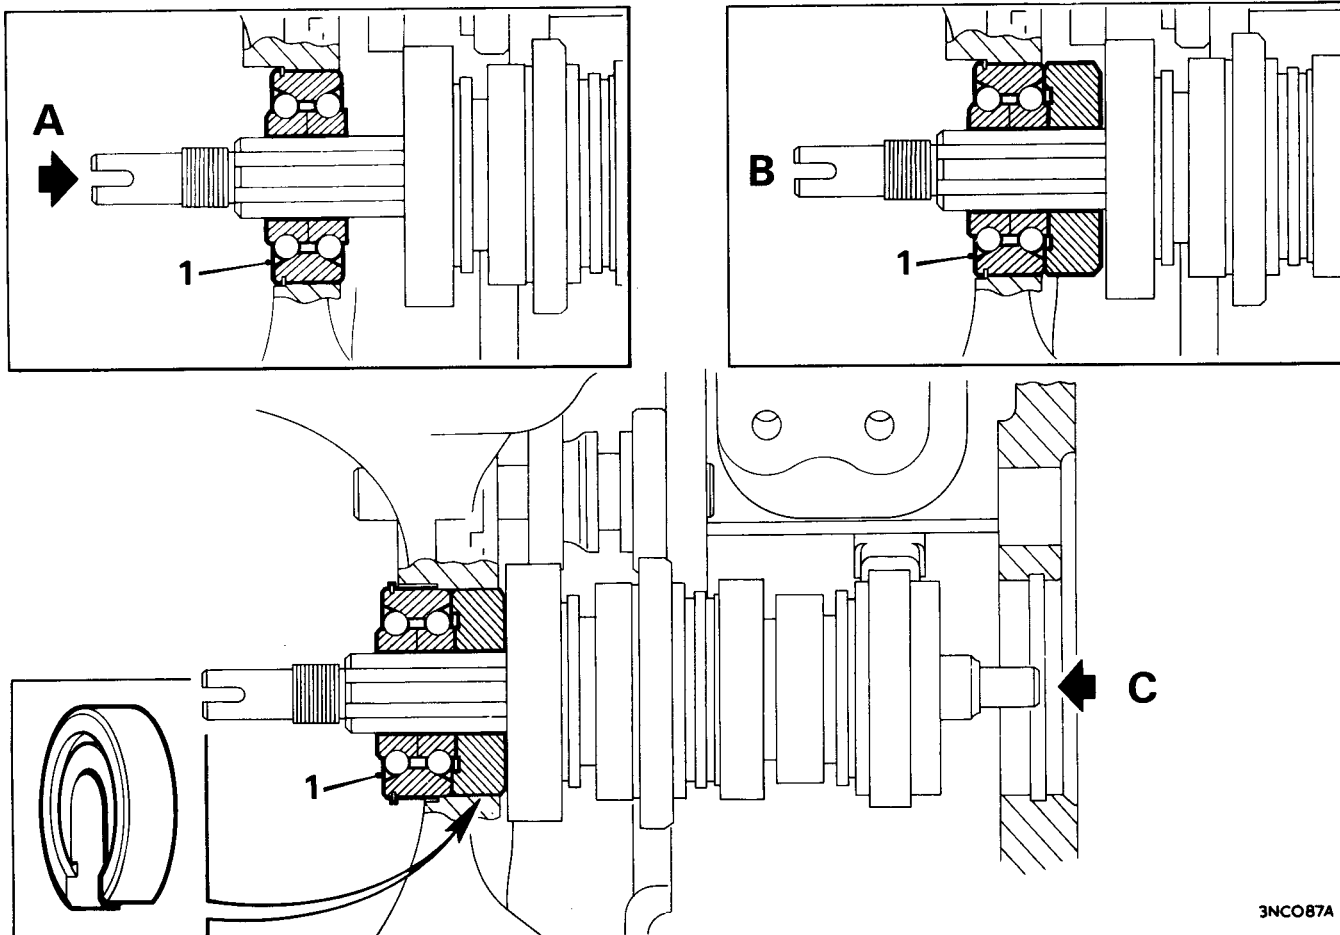

Fig. F.16
31. Refer to removing procedure 'A', 'B' and 'C' on Fig. F.16 to remove the third motion shaft bearing: